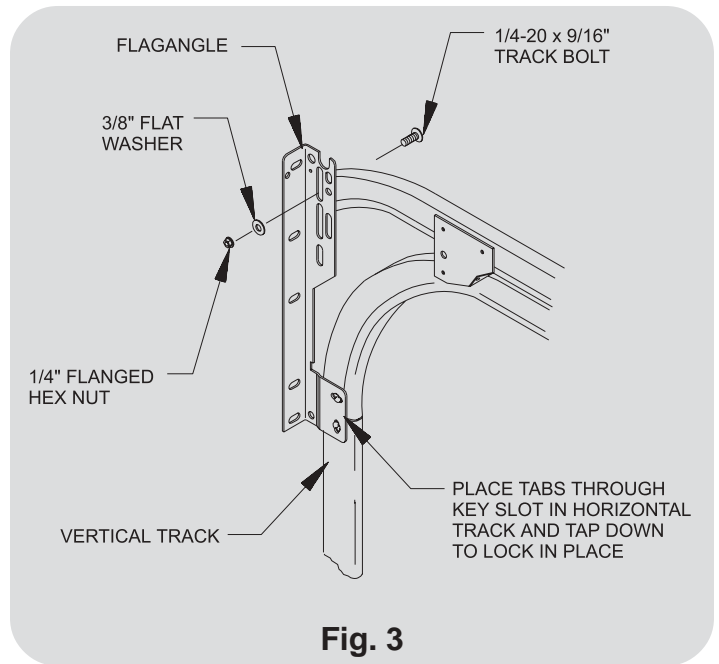
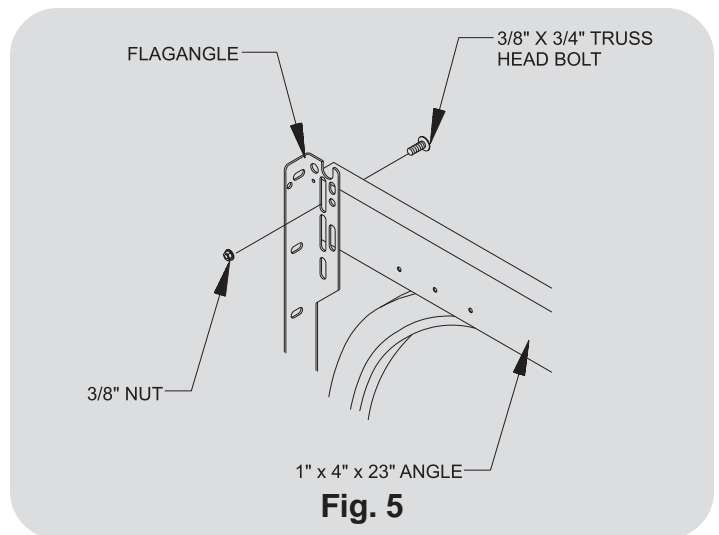
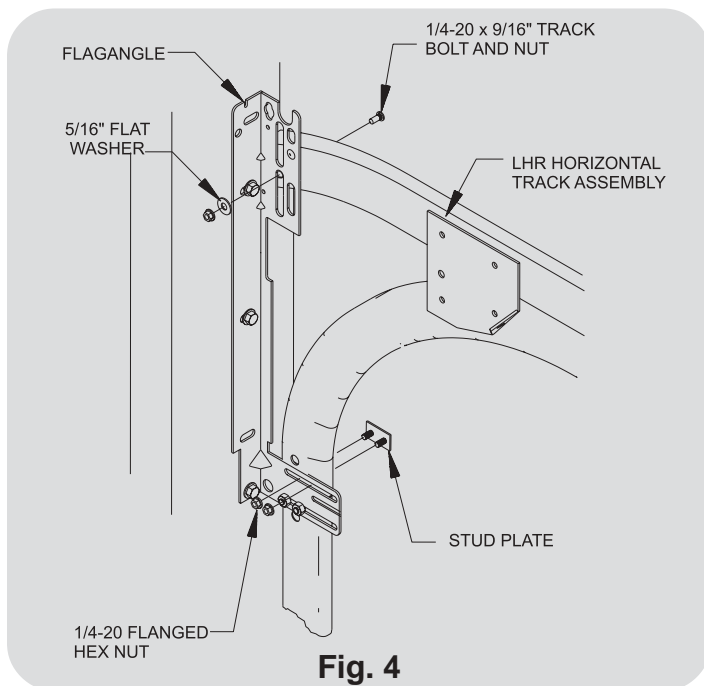

Fig. 3
Fig. 5
Fig. 4
Place the horizontal tracks over the top of the previously installed vertical tracks as shown in **Fig. 3**. Locate the keyslot in the track over the Twistlock™ tabs on the flagangles. Hold the parts together and tap down on the track to lock into place. Place (1) 1/4-20 x 9/16" track bolt through the slot in the end of the top curve and the appropriate slot in the flagangle, then secure with a 3/8" flat washer and flanged hex nut (do not fully tighten). Level the horizontal track, then tighten the bolt in the top curve. For 1" x 4" x 23" angles see **Fig. 5**.
Place the horizontal tracks over the top of the previously installed vertical tracks as shown in **Fig. 4**. Attach the bottom of the lower curve to the flagangle using (1) stud plate and nuts. Secure the upper curve to the flagangle using (1) 1/4-20 x 9/16" track bolt, 3/8" flat washer and flanged hex nut as illustrated. For 1" x 4" x 23" angles see **Fig. 5**.